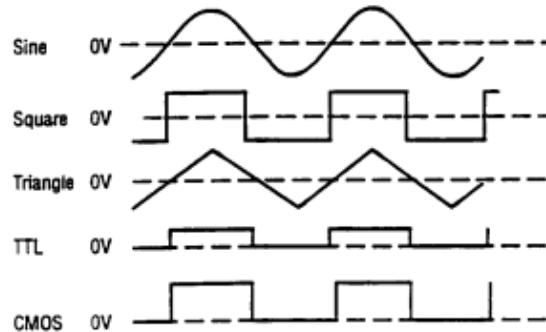

Figure 2. Output Waveform and Phase Relationship
1. Initially, verify that the **DUTY CYCLE** (17), **CMOS LEVEL** (15), **DC OFFSET** (14), **-20 dB** (11), and **SWEEP INT/EXT** (12) switches are in the OUT position (released). This will produce a symmetrical waveform unaffected by the sweep generator and other controls.
2. Plug the unit into an appropriate power source and turn it on by engaging the **POWER** switch (1).
3. Select the desired waveform (SINE, SQUARE, or TRIANGLE) by engaging one of the **FUNCTION** switches (3). Phase relationships of the waveforms are shown in Fig. 2.
4. Select the frequency of the waveform by depressing one of the **RANGE** switches (2). The output frequency is displayed, along with the appropriate measurement units, **KHz** or **Hz** (23), on the LED display.
5. Rotate the **COARSE** (20) frequency control to quickly set the output frequency to the approximate desired value. The **FINE** (19) frequency control can then be used to easily set the output to the specific desired value. The frequency selected is available at the **OUTPUT** jack (6). In addition, a digital signal, either TTL or CMOS is available at the **TTL/CMOS** jack (7) (refer to the "TTL/CMOS OUTPUT" section of this manual).